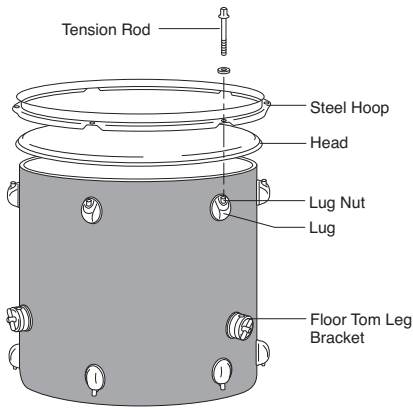

Fig.6
1. Place the shell with the floor tom leg brackets facing downward on a clean, solid surface. Put the head on the shell followed by the steel hoop (Fig.6).